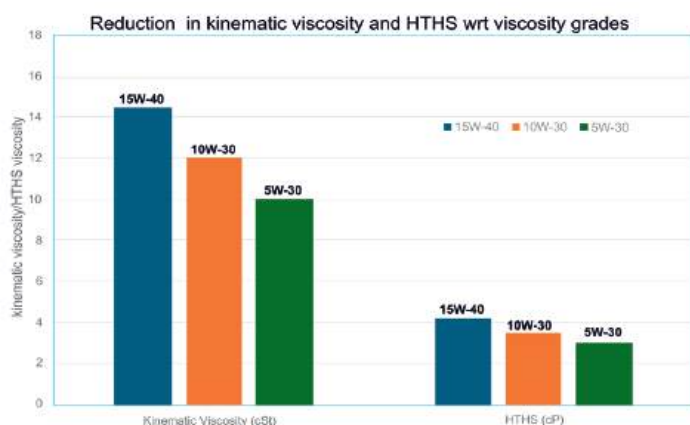

Figure 4. Reduction in kinematic viscosity and HTHS w.r.t. viscosity grades
In contrast, API FA-4 oils typically have HTHS values between 2.9 and 3.2 cSt and viscosities of about 10 cSt at 100°C. To satisfy both viscosity and HTHS requirements, careful selection of base oil combinations and viscosity modifiers (VM) is crucial. Even oils formulated to meet FA-4 specifications need to incorporate high-quality low-viscosity base oils. Figure 4 shows viscosity and HTHS difference of CK-4 15W-40, CK-4 10W-30 and FA-4 5W-30 viscosity grades.